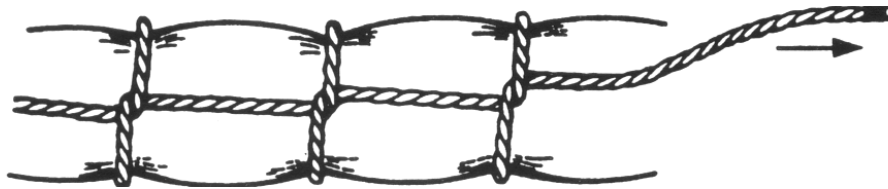

Figure 7 Marling Hitch
2. Roll the mainsail towards the yard (lug) and secure with the brails using a marling hitch (as illustrated in Figure 7).